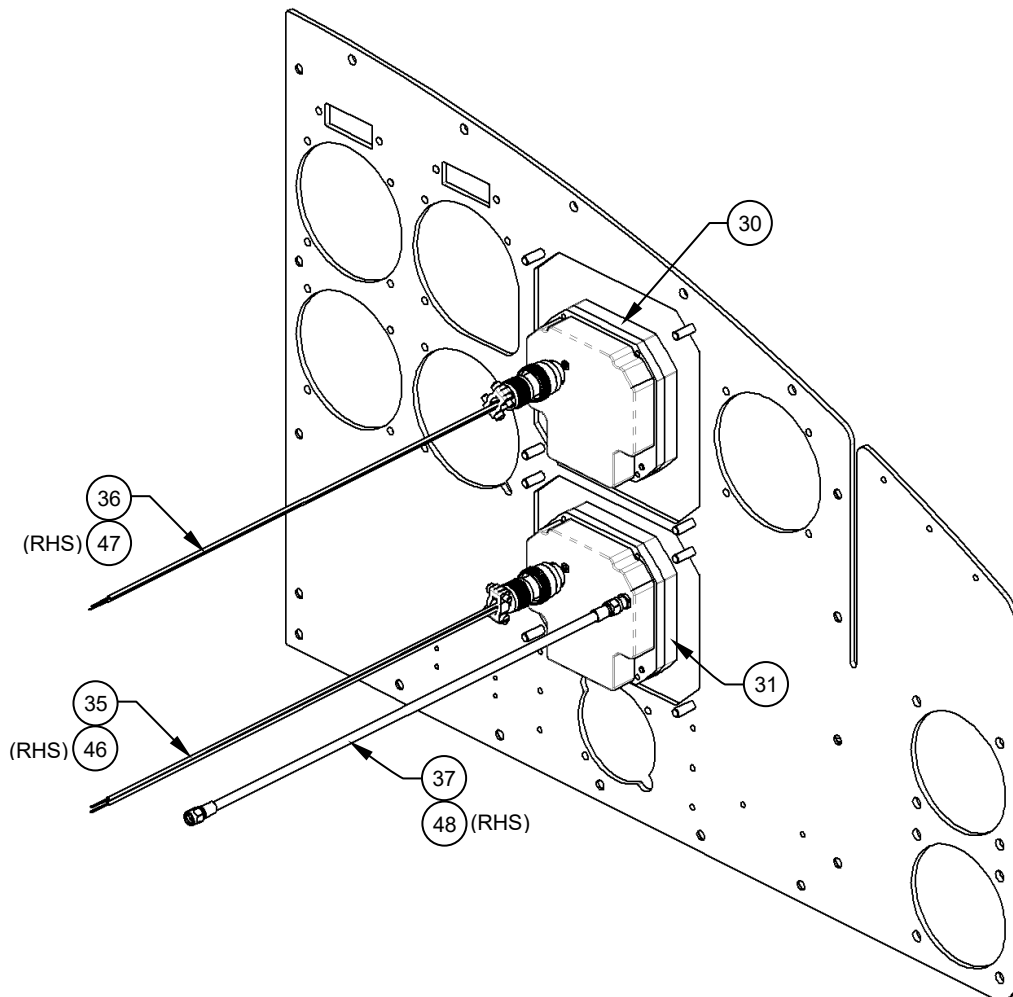

Figure 3
2. Disconnect the Wiring Harnesses (Items 35 & 36) and Coax Cables (Item 37) and temporarily stow them. Reference Figure 3.